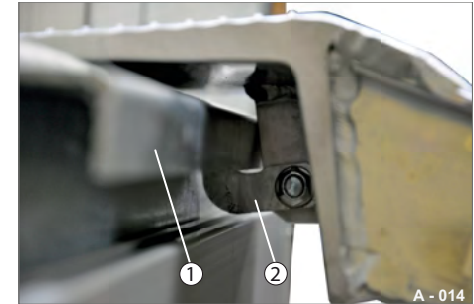

Fig. 19 Securing hook secured
► Check that the securing hook (Fig. 19/2) engages the securing rail (Fig. 19/1).